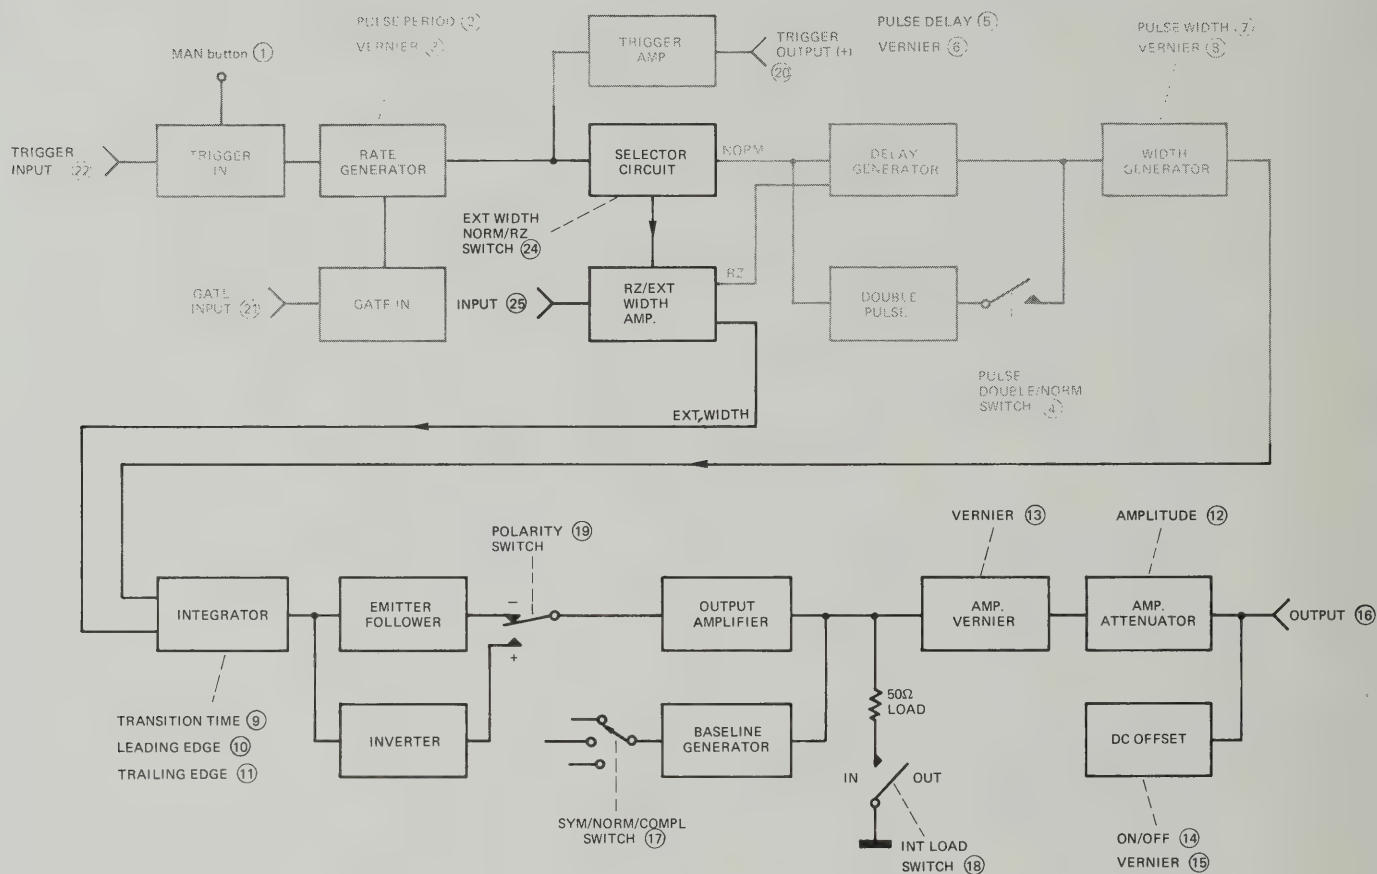

Figure 3-22. External width mode — block diagram
3-51 In this mode, external pulses, applied to the INPUT connector (25) on the rear panel, trigger the transition time integrator (see figure 3-22) and cause the output amplifiers to change state at the threshold level of the input signal. Thus the pulse output is a
3-52 The circuits and controls involved in external width mode are shown in Figure 3-22.